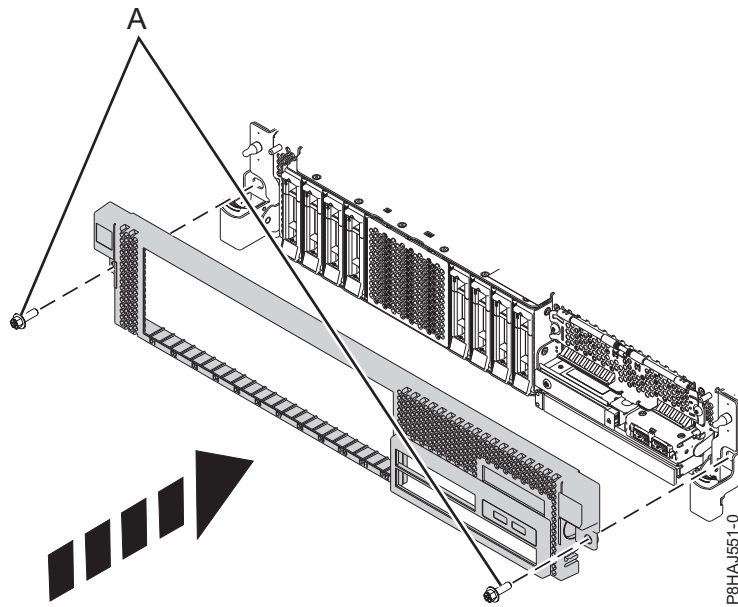

Figure 14. Installing the front cover
3. Close the release latches by pushing in the direction shown in Figure 14 on page 33. The cover snaps into place and has an indentation where you can hold onto it more easily.
4. Replace the shipping screws (A).